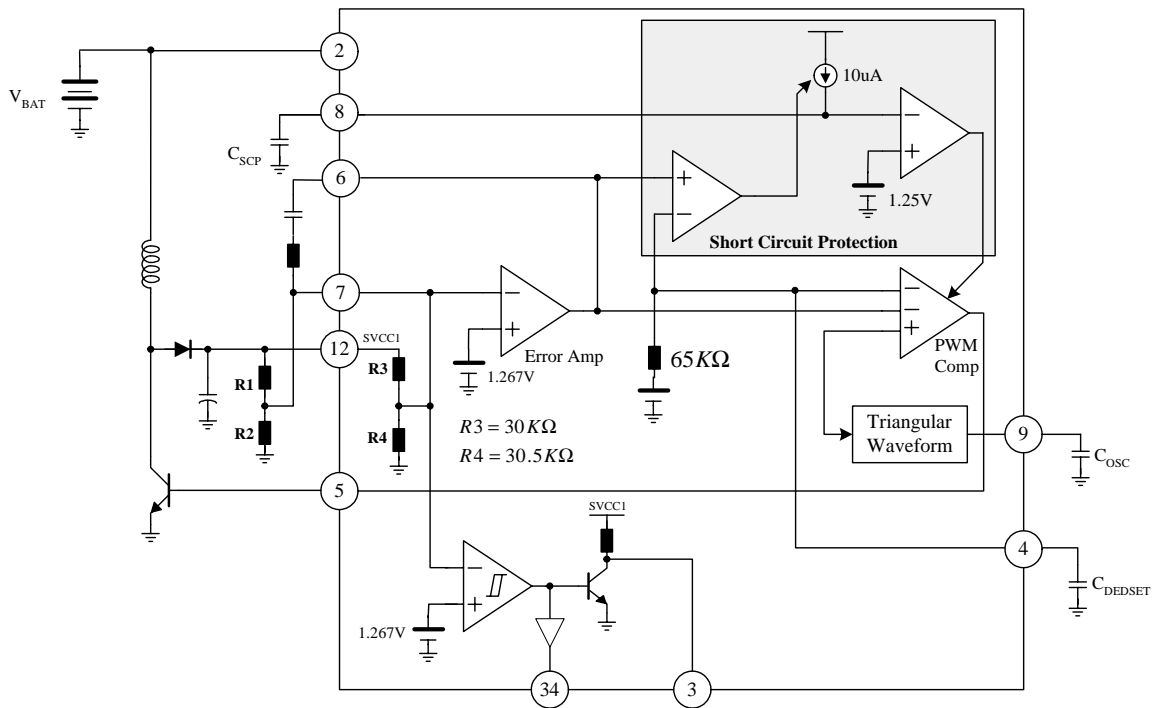

Figure 2. Schematic of DC-DC Converter
- This voltage, SVCC1, can be varied with the addition of an external resistors R1 and R2 as shown Figure.2 and the voltage is defined as follows.